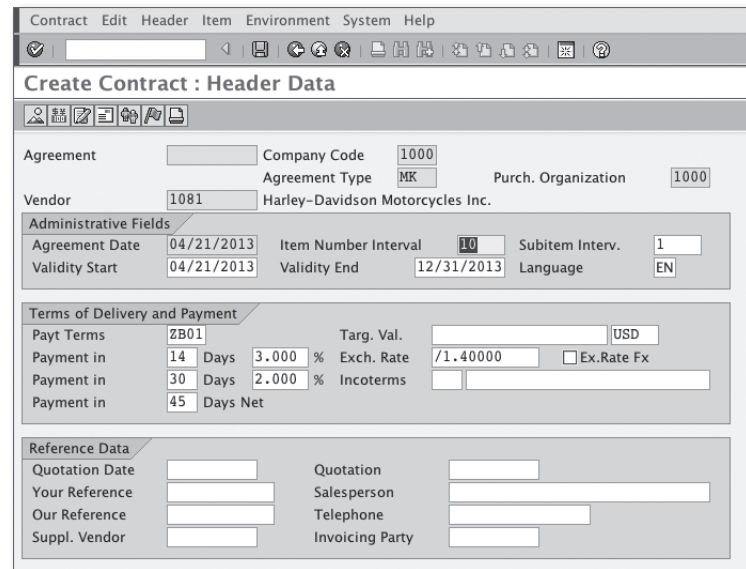
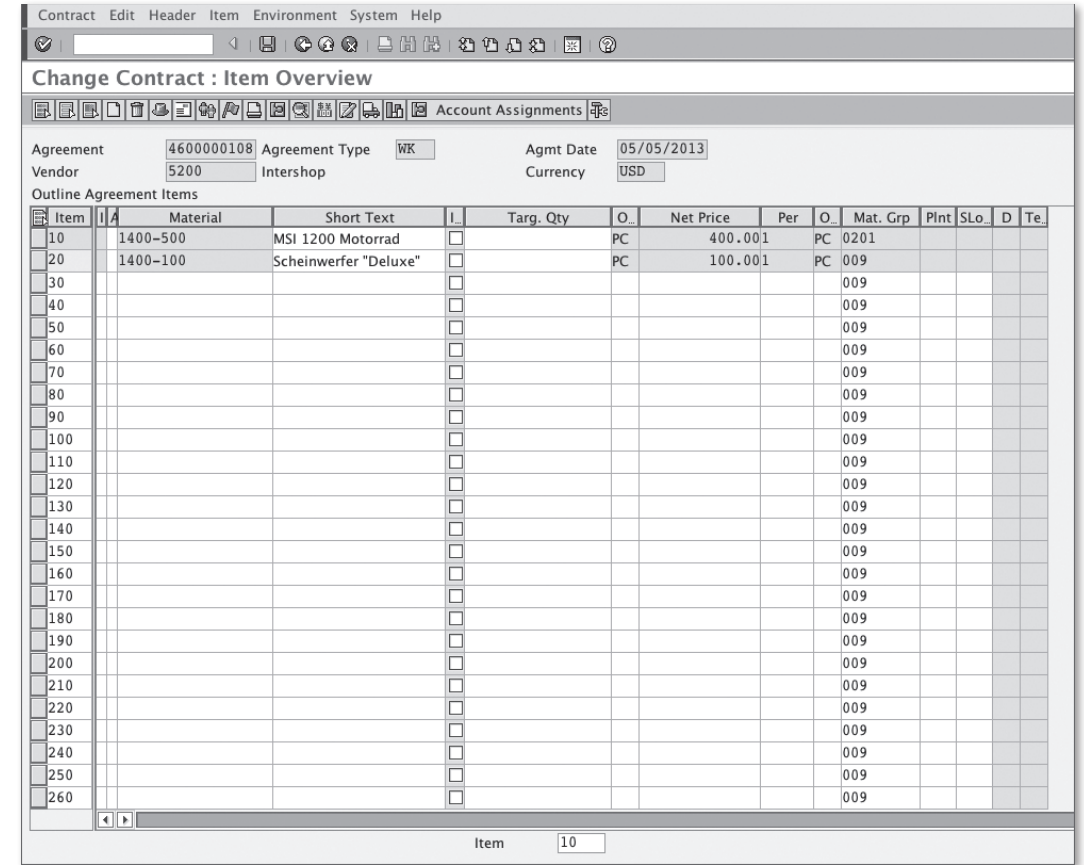

Figure 4.8 Header Data Copied from the Vendor Master Record
Figure 4.11 Materials Entered in a Value Contract: No Individual Quantity Needed
2. In the next screen, enter the header data, such as the contract's validity end date and the maximum contract value, if applicable. The header copies information from the vendor about the terms of payment and cash discounts, which you can edit if they don't apply for the contract (see Figure 4.8). Press **Enter** to continue to the ITEM OVERVIEW screen.
Value contracts As we discussed previously, you can either create a contract based on value or based on quantity. Value contracts (agreement type WK) are based on a fixed target monetary value on purchases of a set of materials that you enter in the contract. You enter a target contract value in the document's header (refer back to Figure 4.8) as you start creating the document. After completing the header's data, you can proceed to entering the materials that will be part of the contract. When the materials are entered in the contract, you can enter a quantity for each one, but it's not required; remember these contracts depend on a global value and not on individual quantities (see Figure 4.11).